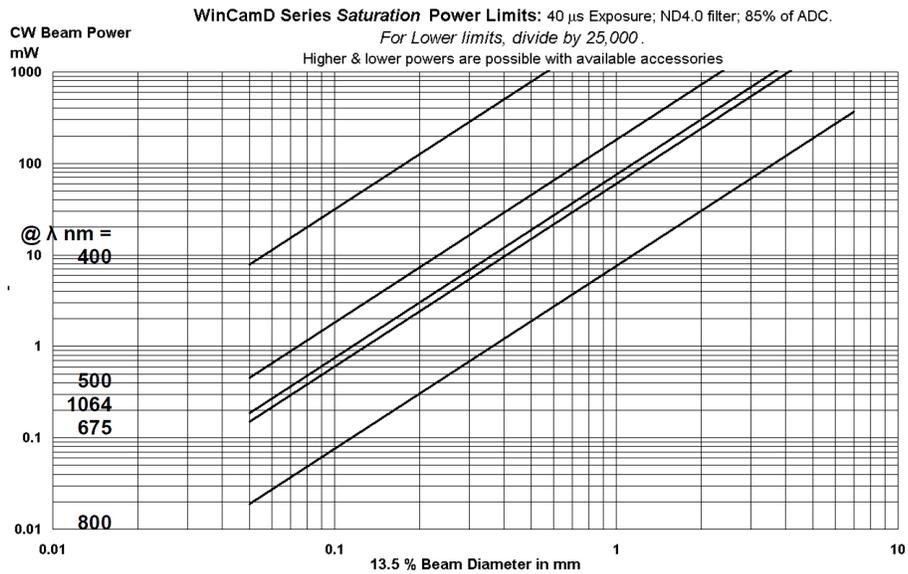
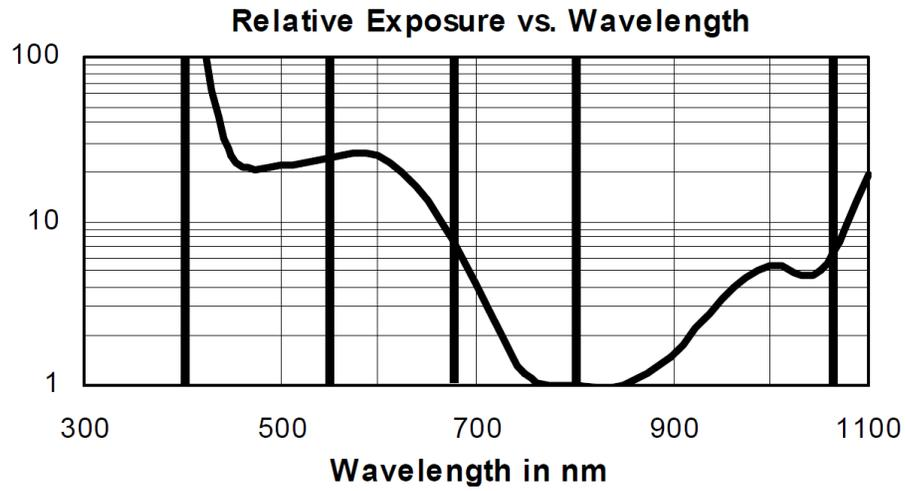
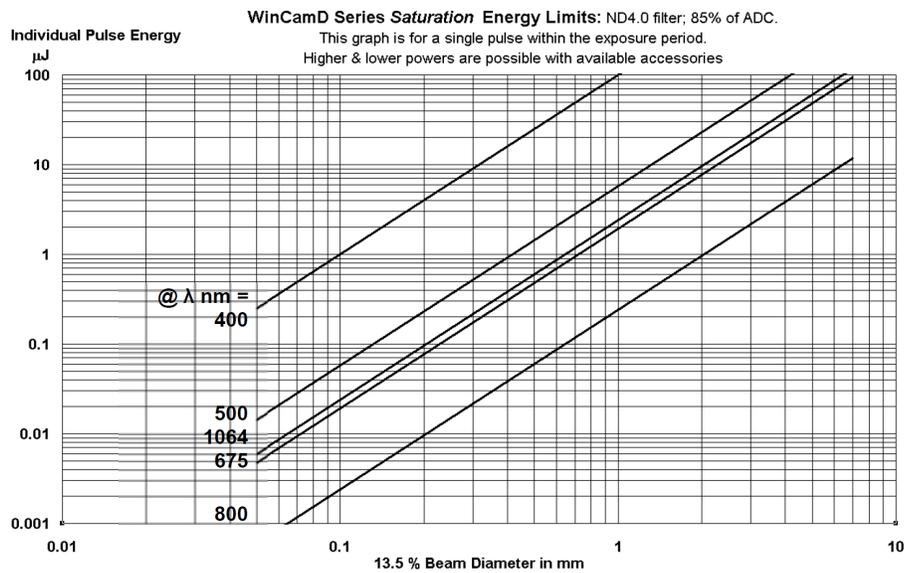

Figure 1.1: Graphs for WinCamD-UCD12. Other sensors will be within a factor of 2.
Figure 1.2: Graphs for WinCamD-UCD12. Other sensors will be within a factor of 2.
Figure 1.3: Graphs for WinCamD-UCD12. Other sensors will be within a factor of 2.
However, the limit is lower for some pulsed lasers (especially nanosecond and femtosecond lasers). Use Fig. 1.2 or the DataRay Attenuation Calculator to determine estimates for wavelengths other than those shown in Fig. 1.1. The variation is due to a combination of detector response versus wavelength and ND 4.0 filter actual transmission versus wavelength. For additional information on attenuation, see Chapter 5.
Fig. 1.1 shows saturation optical power that the standard camera configuration with ND4 filter can measure versus beam diameter and wavelength. The **Saturation Limit** assumes:
- PRR > 25 kHz: Treat the laser as CW based on the mean power (for example mJ/pulse x PRR), then consult Fig. 1.1, Fig. 1.2, or the attenuation calculator.
- $PRR \leq 25$ kHz: Consult Fig. 1.3, Fig. 1.2, or the attenuation calculator.